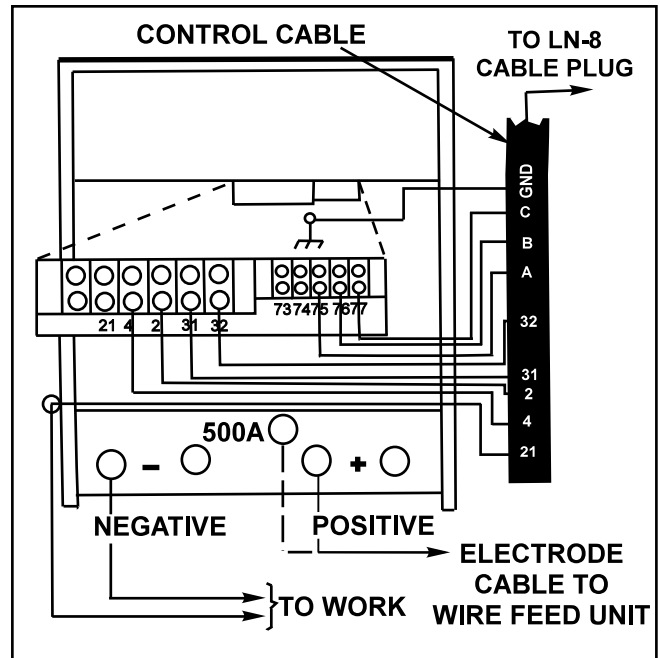

FIGURE C.3 - LN-8 Wire Feeder Connection to the IDEALARC DC-1000
- Connect the wire feeder control cable leads to the DC-1000 terminal strip. See Figure C.3.
- Connect lead #75(A) to #75 on the terminal strip.
- Connect lead #76(B) to #76 on the terminal strip.
- Connect lead #77(C) to #77 on the terminal strip.
- Connect the welding cables as shown in Figure C.3.
NOTE: The connection diagram shown in figure C-3 shows electrode connected positive. To change polarity: